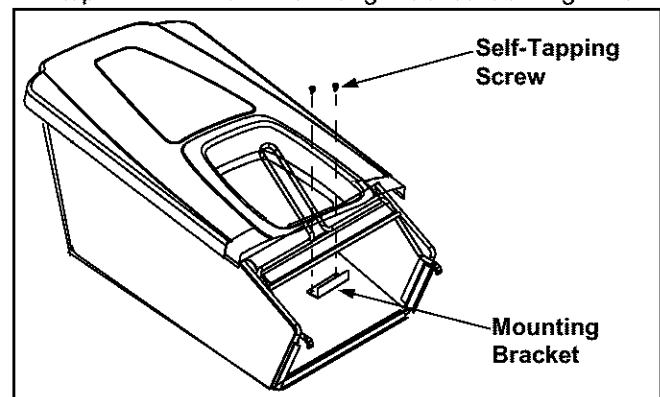

Figure 8
- Place the mounting bracket under the front of the handle, with the flat side of the bracket facing front. Insert the two self-tapping screws through the hard top cover and the mounting bracket. See Figure 8.